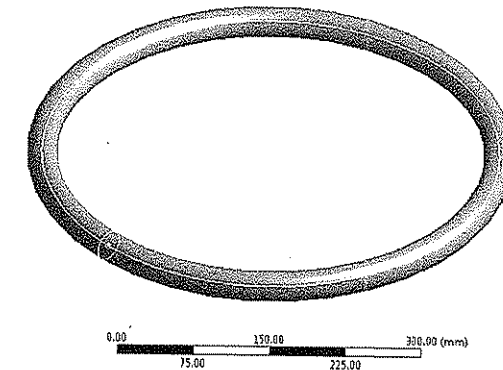

Figure 5-41 The sweep feature
6. Choose the **Generate** tool from the **Features** toolbar; the sweep feature is created, as shown in Figure 5-41.